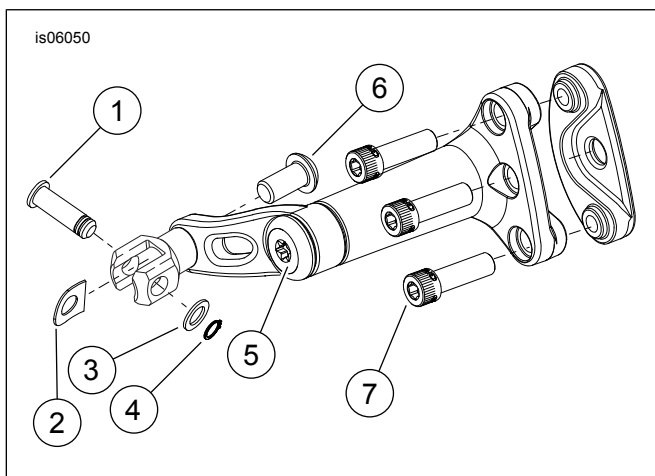
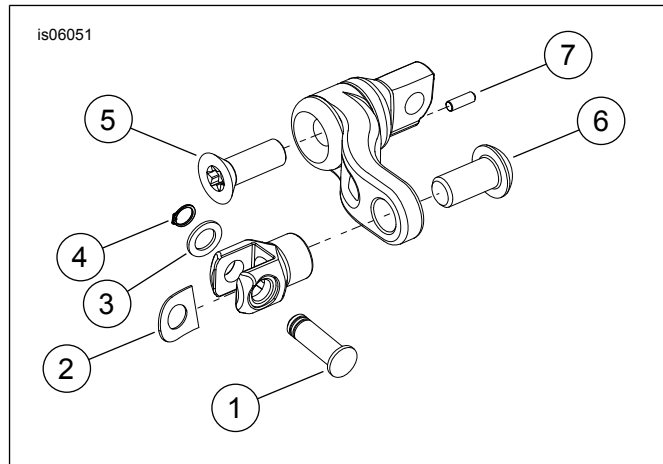

Figure 4. Service Parts: Adjustable Footpeg Support
Figure 5. Service Parts: Adjustable Footpeg Support
See Figure 4 and Table 1 and Figure 5 and Table 2.
1. See Figure 4 and Table 1 and Figure 5 and Table 2. Assemble the support arm and female clevis to the footpeg support.
2. Secure footpeg to supports using spring washer (2), clevis pin (1), washer (3) and retaining ring (4).
3. To adjust the position of the footpeg, loosen flat head screw (5) and button head screw (6). Adjust to desired location and tighten screws to 61–67.8 N·m (45–50 ft-lbs).